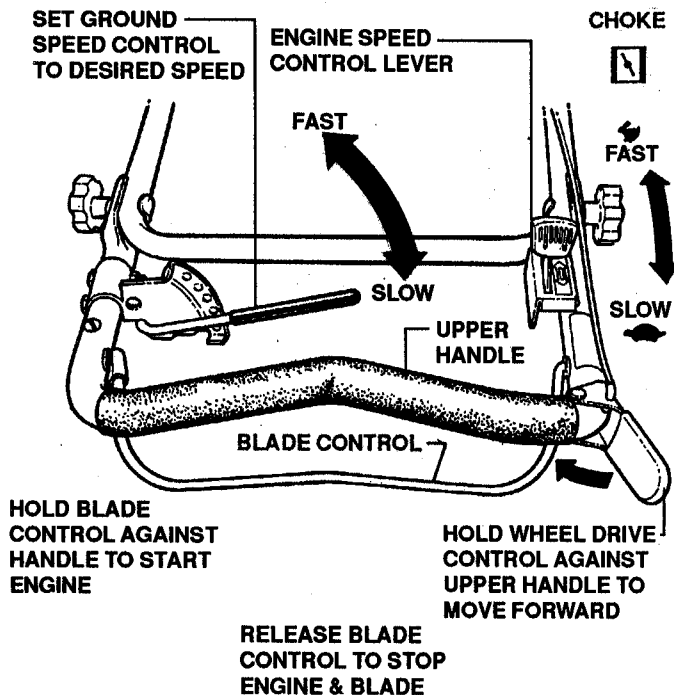

FIGURE 2.1
1. Move engine speed control lever to the "FAST" (⚡) or "CHOKE" (☒) position. Refer to Figure 2.1.
Stop forward motion of mower by releasing the wheel drive control. Refer to Figure 2.1.
1. Move the ground speed control lever to the desired position. Refer to Figure 2.1.
- A. Stop engine and blade by releasing the blade control. See Figure 2.1.